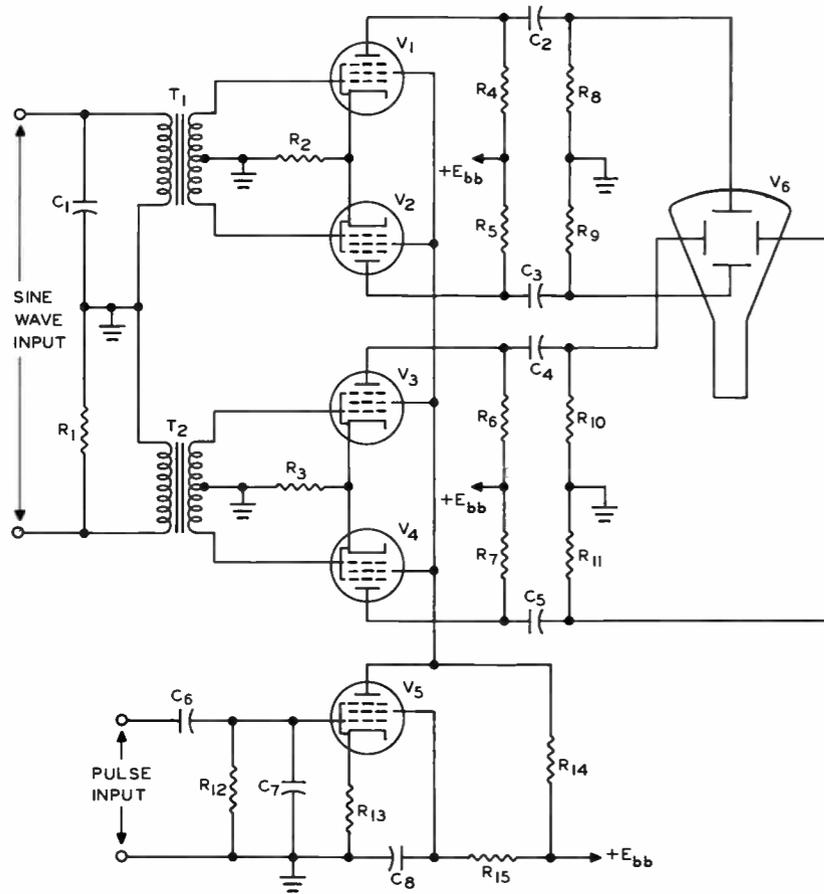

FIGURE 27
In the circuit of Figure 27 the voltage waveform applied to the series combination of  $C_1$  and  $R_1$  is a (A) sine wave. (B) rectangular pulse. (C) sawtooth. (D) trapezoid.